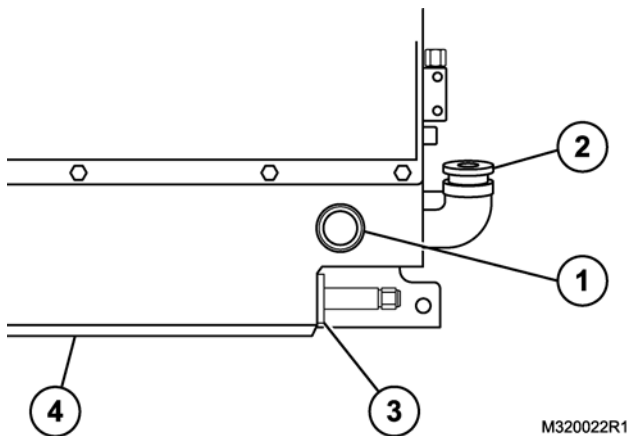

FIGURE 32-11. POWER PACK RESERVOIR
Ensure that all necessary safety guidelines have been observed before attempting to check the oil level in oil reservoir (4, Figure 32-11). In addition, ensure the ladder is in the fully lowered position.
1. Remove cap from fill port (2, Figure 32-11).
1. Remove the plug from fill port (2, Figure 32-11).
2. Remove oil heater (3) from reservoir (4) and allow the oil to drain into an acceptable container. DO NOT damage the heating end of the oil heater.
4. Re-install oil heater (3). DO NOT overtighten.
5. Re-fill the reservoir through fill port (2) with the correct quantity and type of clean, filtered hydraulic oil.
8. Re-check the oil level through sight glass (1). Top-off as needed. DO NOT overfill.